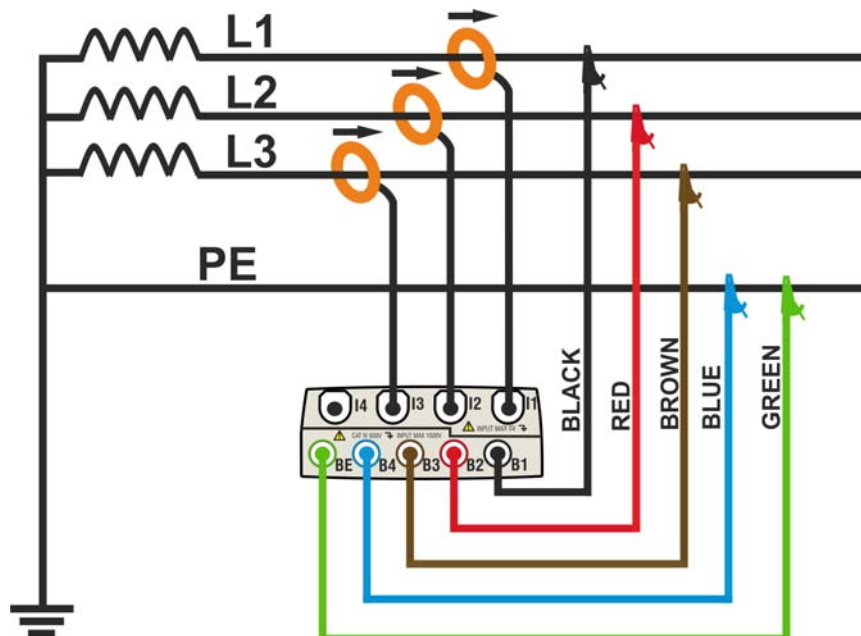

Fig. 118: Meter connection in a three phase 3-wire system
2. Connect voltage test leads on Phases L1, L2, L3, and Ground cables respecting the colours as shown in Fig. 118. **Verify the result “123” at display relative to a correct phase sequence indication** (see § 5.2.1) and perform the corrections if necessary.
3. Connect the transducer current clamps on Phase L1, L2, L3 cables as shown in Fig. 118 respecting the clamp's arrow direction indicating the current standard sequence from generator to load. **On Real Time Values' section screens always verify the positive value of Active Power and the power factor relative to load which should be normally inductive** before starting a recording. Reverse the clamp by 180 degrees on cables in case of negative readings.